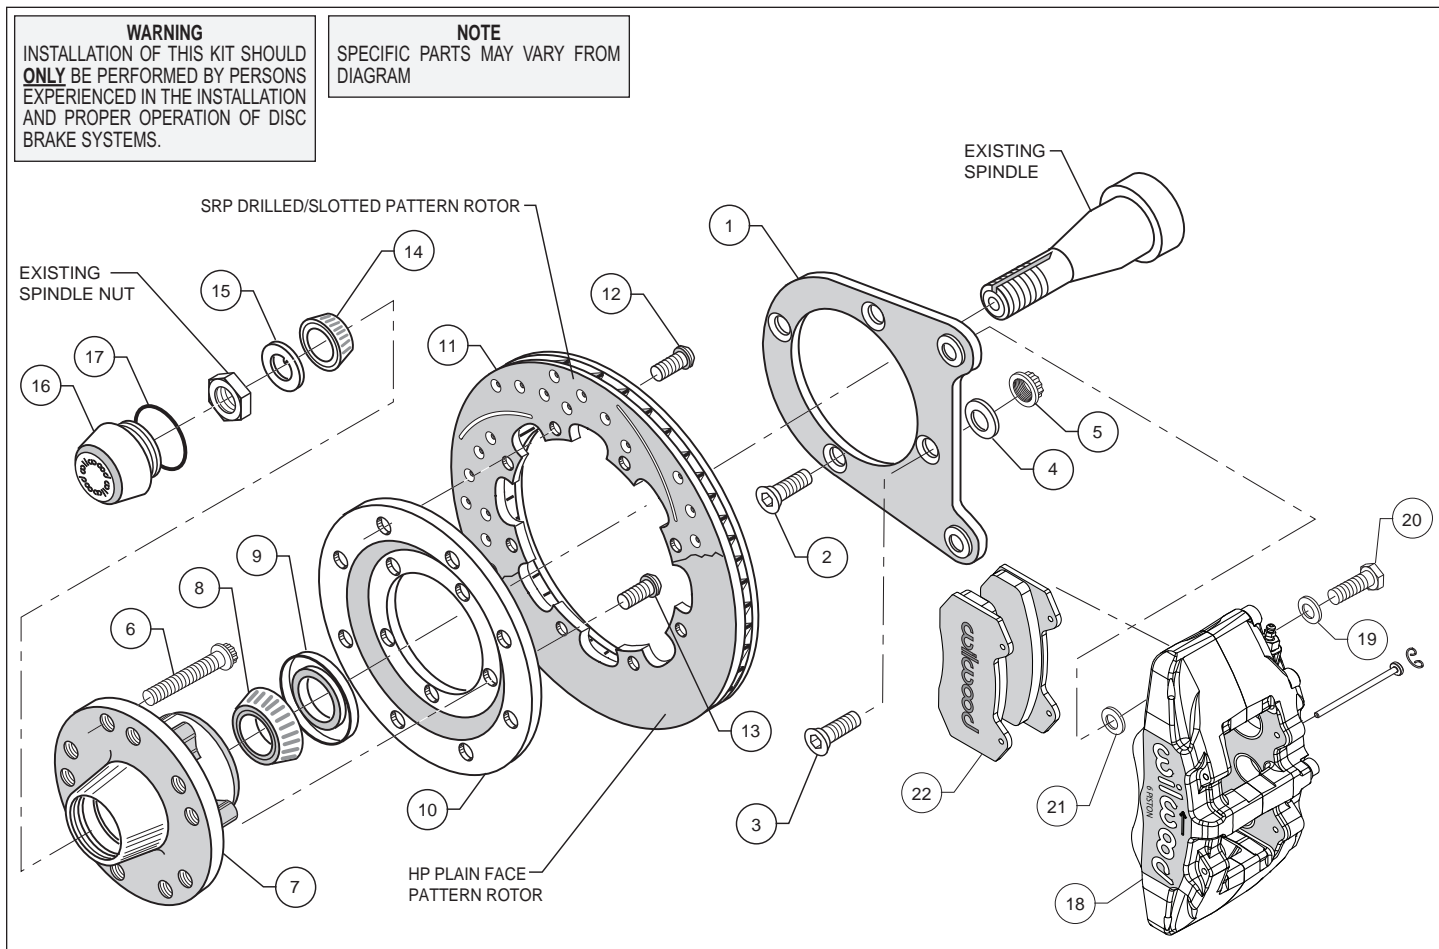

Figure 1. Typical Installation Configuration
- Orient the caliper mount bracket (1) as shown in Figure 1. Install using bolts (2) threaded into the steering arm and bolts (3), washers (4), and locknuts (5), Figure 1. Ensure that the flanged heads of the clinch nuts in the bracket are facing outboard, Figure 1. Temporarily tighten the mounting bolts. **NOTE:** The bracket must fit squarely against the mounting points on the spindle. Inspect for interference from casting irregularities, machining ridges, burrs, etc. Torque locknuts (5) to 65 ft-lb. Apply red *Loctite*® 271 to the threads of bolts (2) and torque to 80 ft-lb.
- Install wheel studs (6) into the hub (7). Torque to 77 ft-lb. **NOTE:** There are two five lug patterns in the hub (5 x 4.50 and 5 x 4.75). Make sure of the correct hole pattern for the correct wheel application before installing studs into hub.
- Pack the large inner bearing cone (8) with high temperature disc brake bearing grease (available from your local auto parts store) and install into the backside of the hub (7).
- Install the grease seal (9) by pressing into the backside of the hub (7).
- Orient the rotor (11) and the rotor adapter (10) as shown in Figure 1. Attach the rotor to the adapter using bolts (12). Using an alternating sequence, apply red *Loctite*® 271 to the threads, and torque to 25 ft-lb.
- Mount the adapter/rotor assembly (10/11) to the hub (7) using bolts (13), as shown in Figure 1. Using an alternating sequence, apply red *Loctite*® 271 to the threads, and torque to 45 ft-lb.
- Pack the small outer bearing cone (14) with high temperature disc brake bearing grease and install into front of hub (7). Slide the hub/rotor assembly (7 and 11) with outer bearing cone (14) onto the spindle. Secure using new spindle washer (15), your adjusting nut and nut locking device. Adjust bearings per Original Equipment Manufacturer (OEM) specifications.
- Install the dust cap (16) onto the hub (7). Friction created by the o-ring (17) on the dust cap (16) keeps it from unscrewing. Be sure the spindle washer (15) seats properly against the hub face.
- NOTE:** Please reference the caution statement at the beginning of the assembly instructions. This kit contains distinct right and left hand calipers that must be mounted in a specific direction, as described below. Mount the caliper (18) onto the caliper bracket (1) using bolts (20) and washers (19), as shown in Figure 1. Initially place two .032" thick shims (21) on each bolt between the caliper and the bracket. Ensure that the caliper is mounted so the largest pistons are at the rotor exit end of the caliper, in relation to the direction of
- Remove the two pad retaining pins from the caliper (18) by carefully popping out the pin retaining clips and sliding out the pins. Insert the brake pads (22) into the caliper from the bottom, Figure 1, with the friction material facing the rotor. Secure the brake pads in place with the pad retaining pins and clips. Reinstall the caliper onto the caliper mounting bracket. Apply red *Loctite*® 271 to bolt threads (20), and torque to 40 ft-lb.